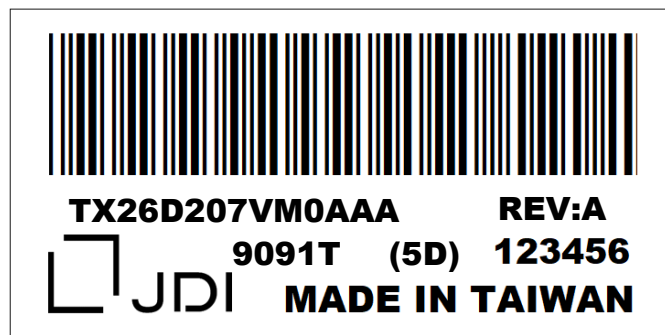

Fig. 13.2
- 3) The location of the lot mark is on the back of the display shown in Fig. 13.2